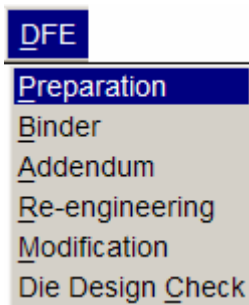

Figure 5 DFE menu
- Select **DFE**→**Preparation** from the menu bar, as illustrated in Figure 5.